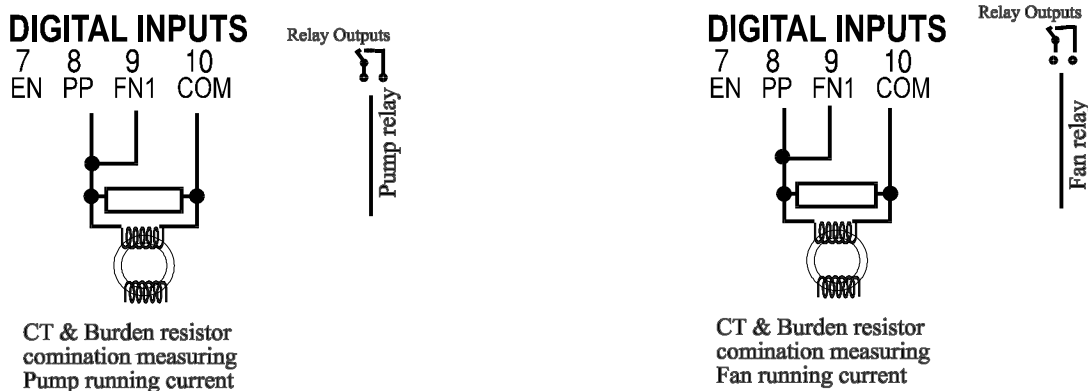

Figure 9.1.3B
- 9.1.3.3 Figure 9.1.3B (left) shows the 852 wiring arrangement for CT type input where the transformer is fitted with a Pump only. With this arrangement ensure that the FAN and Pump ON and OFF settings are identical.
- 9.1.3.4 Figure 9.1.3B (right) shows the 852 wiring arrangement for CT type input where the transformer is fitted with a Fan only. With this arrangement ensure that the FAN and Pump ON and OFF settings are identical.